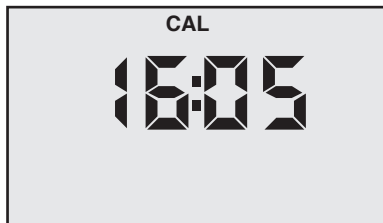

Figure 11
Example shown in Figure 11, 16:05 equals 4:05 PM.
- Press  $\text{CAL}$  /  $\text{MCLR}$  to initiate. **CAL** will be displayed along with the time, (see Figure 11).